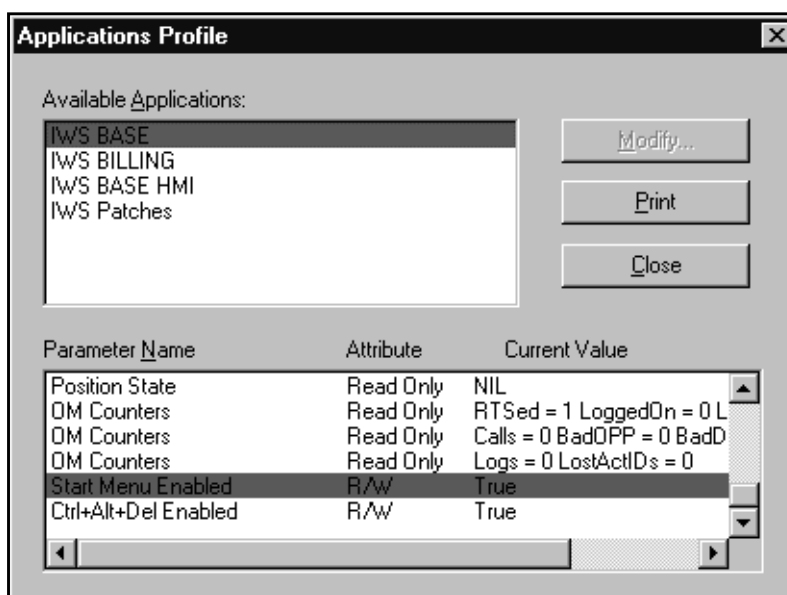

FIGURE 83. Start Menu Enabled Set to True
- b. Press Alt+S to change the setting of the Start Menu Enabled variable to true as shown in Figure 83.